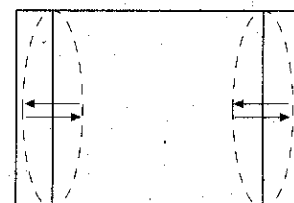

Fig. 9
- Adjust the VERTICAL BOW to obtain condition as in (fig. 9).